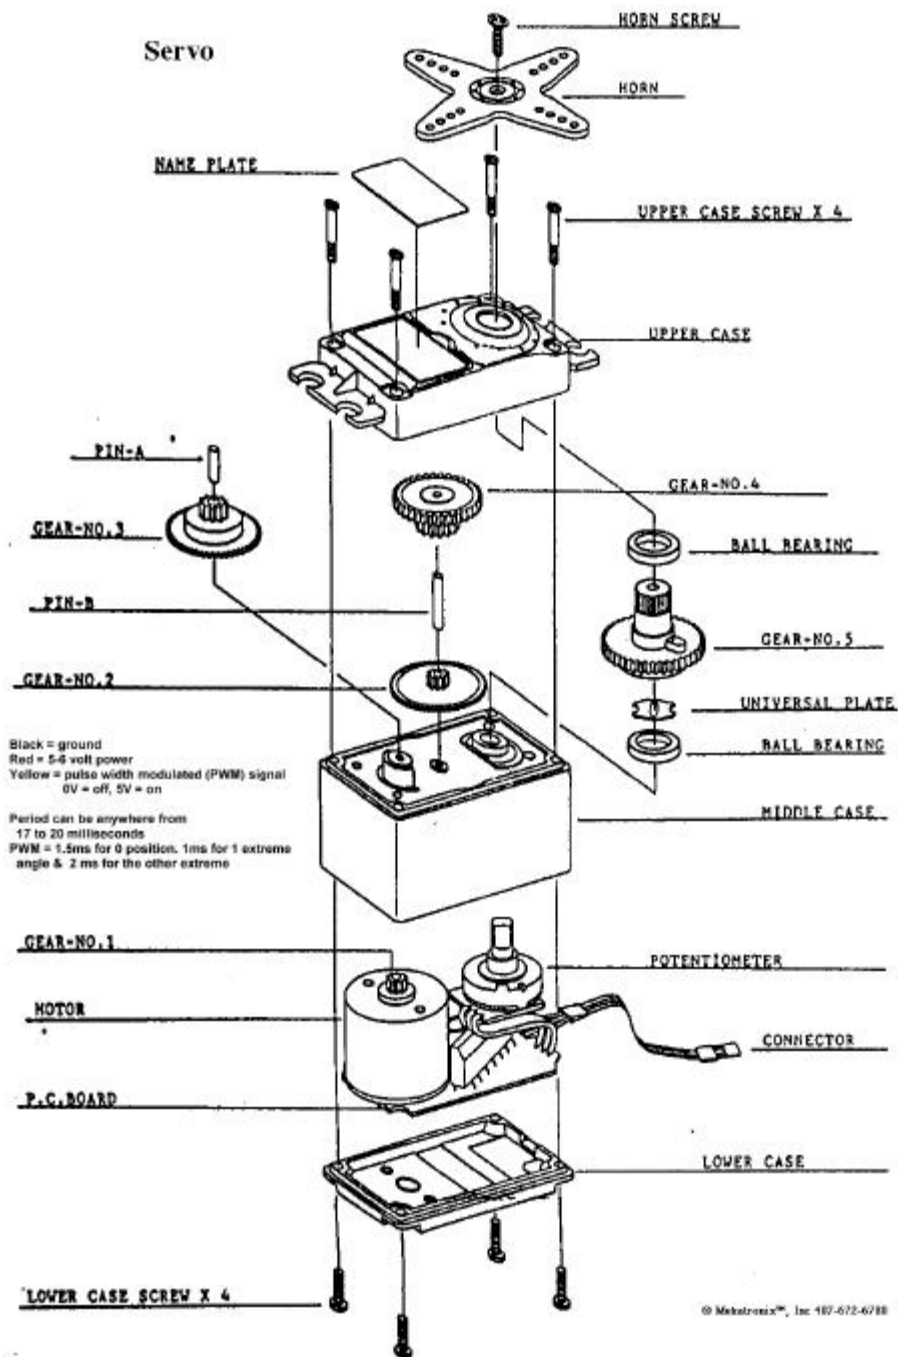

Figure 2. Exploded view of a another type of servo illustrating the gear arrangement and assembly/disassembly.
Refer to Figure 2. These directions are for servos without separate screws for the top cover plate.
3. Carefully remove top plastic cover. See Figure 2 for the gear arrangement.
The procedure is similar to the procedure above. Figure 2 illustrates an exploded view of a servo with ball bearings and separate top and bottom plate screws.
4. Remove the gears. See Figure 2 for the gear arrangement.